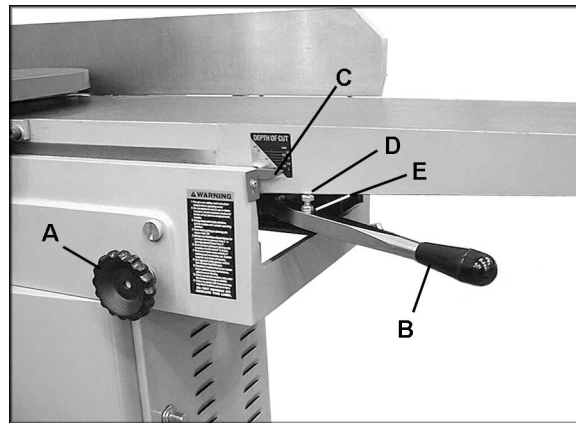

Figure 17
1. To set the cutting depth, loosen handwheel (A, Figure 17) by turning counterclockwise.
2. Move table adjustment arm (B, Figure 17) up or down to raise or lower infeed table. The pointer (C, Figure 17) shows the depth of cut on the adjoining scale.
3. Tighten handwheel securely (A, Figure 17).
The stop screw (D, Figure 17) on the infeed table should be set so that when it contacts the table, the infeed table will be exactly level with the knives (with the scale pointer at zero). The setting of this stop screw has been made at the factory, but should be checked by the operator before using the jointer. It should also be checked occasionally as the machine receives use.
Use the same procedure as for the outfeed table, placing the straightedge across outfeed table, cutterhead and infeed table. Loosen the hex nut (E, Figure 17) and adjust the stop screw (D, Figure 17) as necessary. When finished, retighten hex nut (E, Figure 17).
If the infeed table is level with the knives but the scale pointer (C, Figure 17) appears to be off, loosen the scale pointer with a screwdriver and adjust it as needed until it reads zero. Retighten the screw.